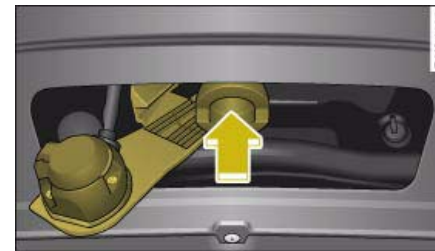

Fig. 200 Removable towing bracket: Inserting the ball joint
- With the spring mechanism in the "ready" position, insert the ball joint into the mounting fixture and push it upwards ⇒ *page 203*, fig. 200 in the direction indicated (arrow) ⇒ . The spring mechanism should then engage automatically with an audible click.